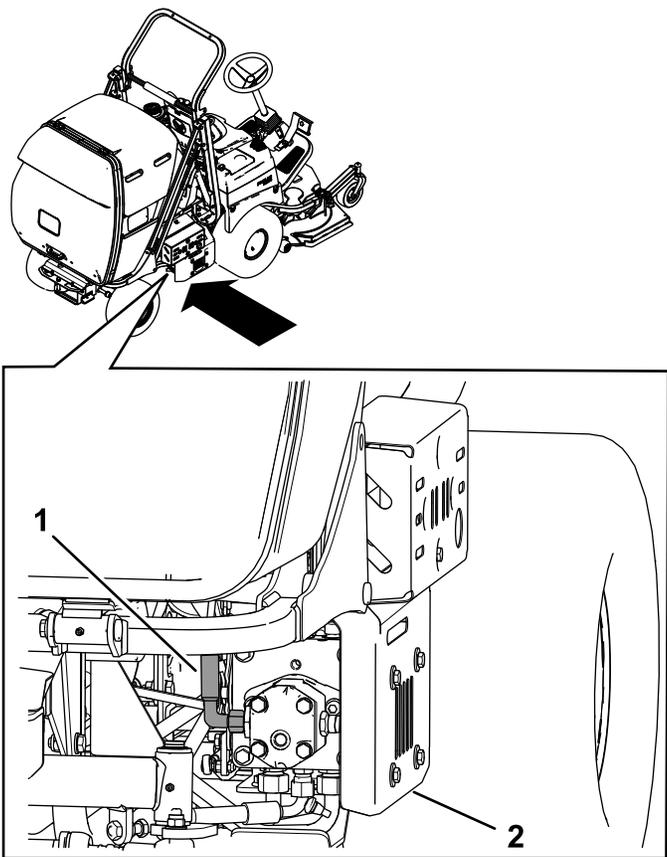

Figure 85
5. To empty the hydraulic tank, remove the cover and loosen the hydraulic hose on the side of the hydraulic pump. (Figure 85).